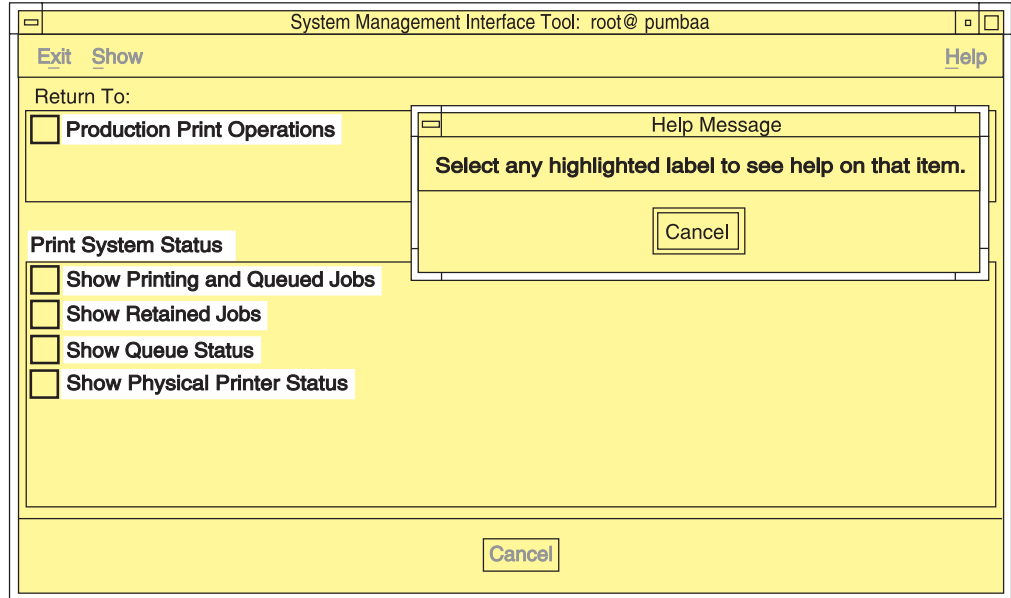

Figure 59. Help for SMIT Panel Menu Selections
1. Press **Ctrl + F1**. All the menu selections on the panel are highlighted. The mouse pointer changes to a question mark. A **Help Message** window opens with instructions on how to access help. Figure 59 on page 327 shows an example of the results of pressing **Ctrl + F1** for a SMIT panel.